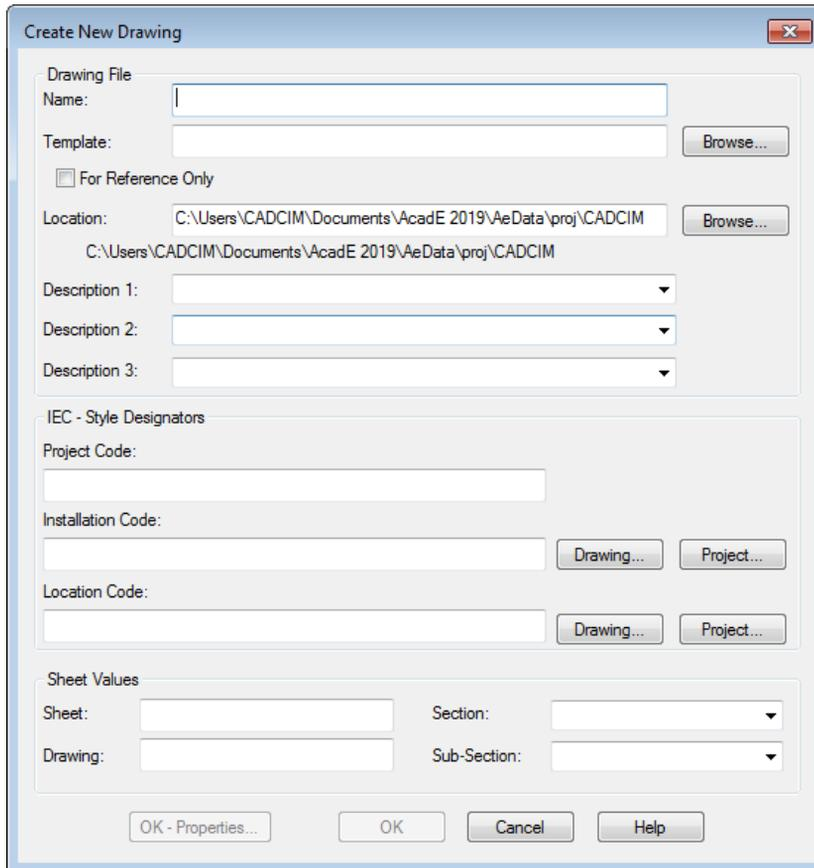

Figure 2-60 The Create New Drawing dialog box
1. In the **PROJECT MANAGER**, choose the **New Drawing** button; the **Create New Drawing** dialog box is displayed, as shown in Figure 2-60.